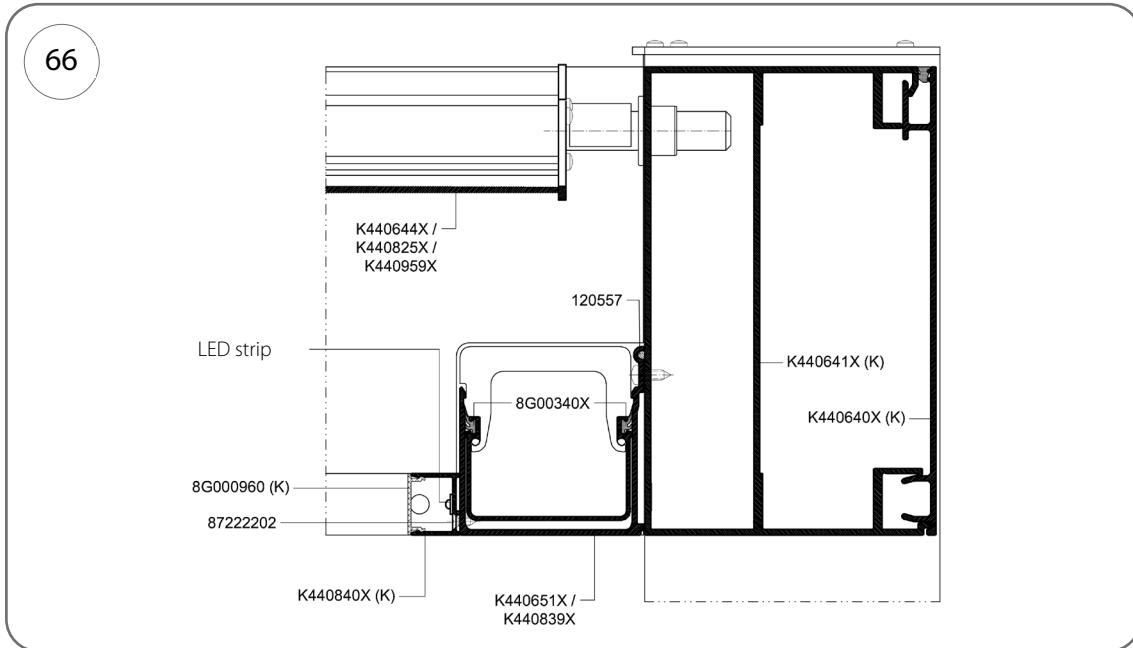
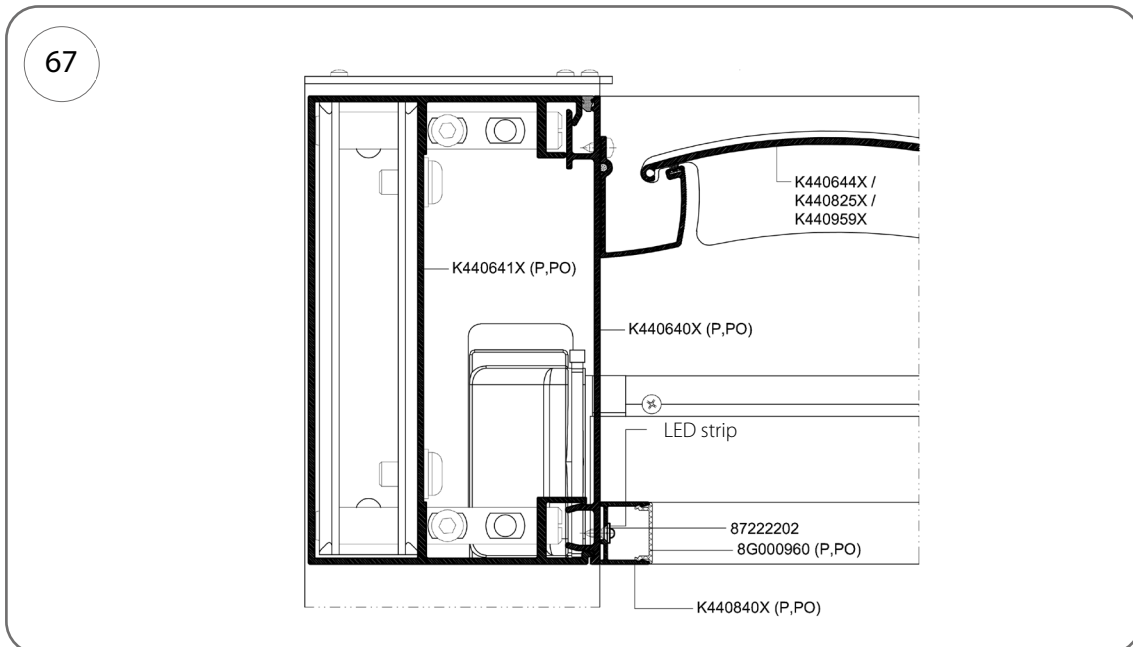

Fig. 66
Fig. 67
1. Screw to the purlin cover (Cat. No. K440640X) (Fig. 66) and to the gutter housing (Cat. No. K440651X or K440839X) (Fig. 67) the LED profile section, cat. no. K440840X, using o 3.5 x 9,5 mm screws, cat. no. 87222202.